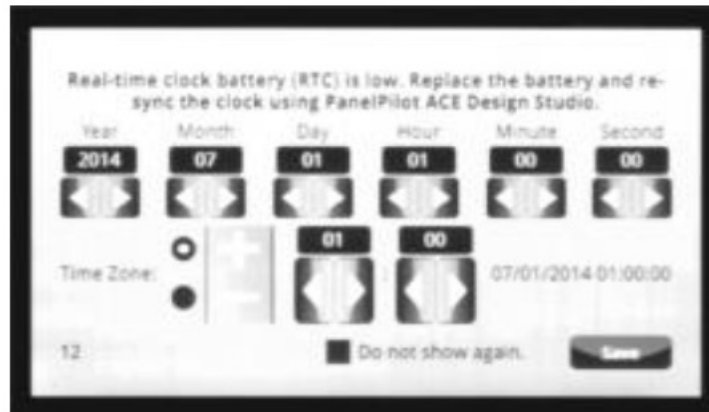

Fig. 1
- If the screen in Fig. 1 appears at startup, the internal battery for keeping time is low.